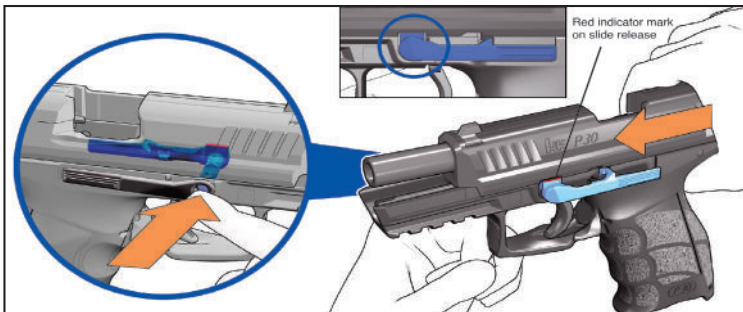

Figure 23 — Removing slide from frame by pushing it forward
5. Pull slide back and move it to the rear as far as the disassembly position (Figure 23).
6. Using your free hand, press the slide release axle in from right to left (Figure 23).